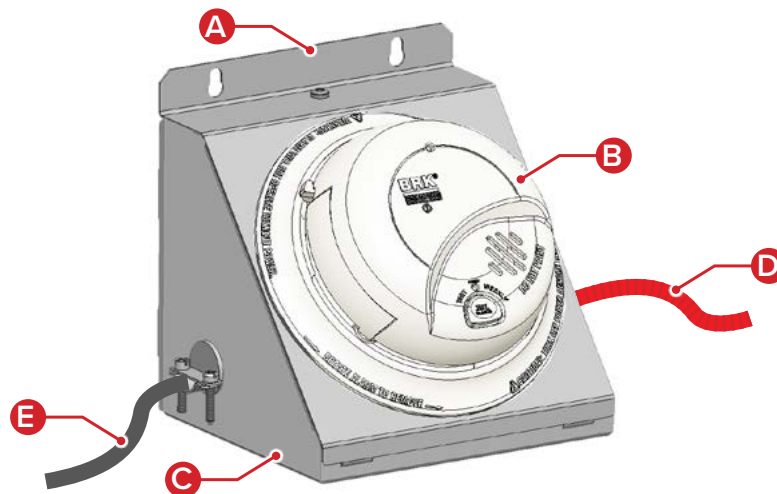

Fig. 2 - CO Boiler Interlock Assembly
5.2 On Top of the Boiler (Fig. 2)
5.3 On a Wall Adjacent to the Boiler (Fig. 2)